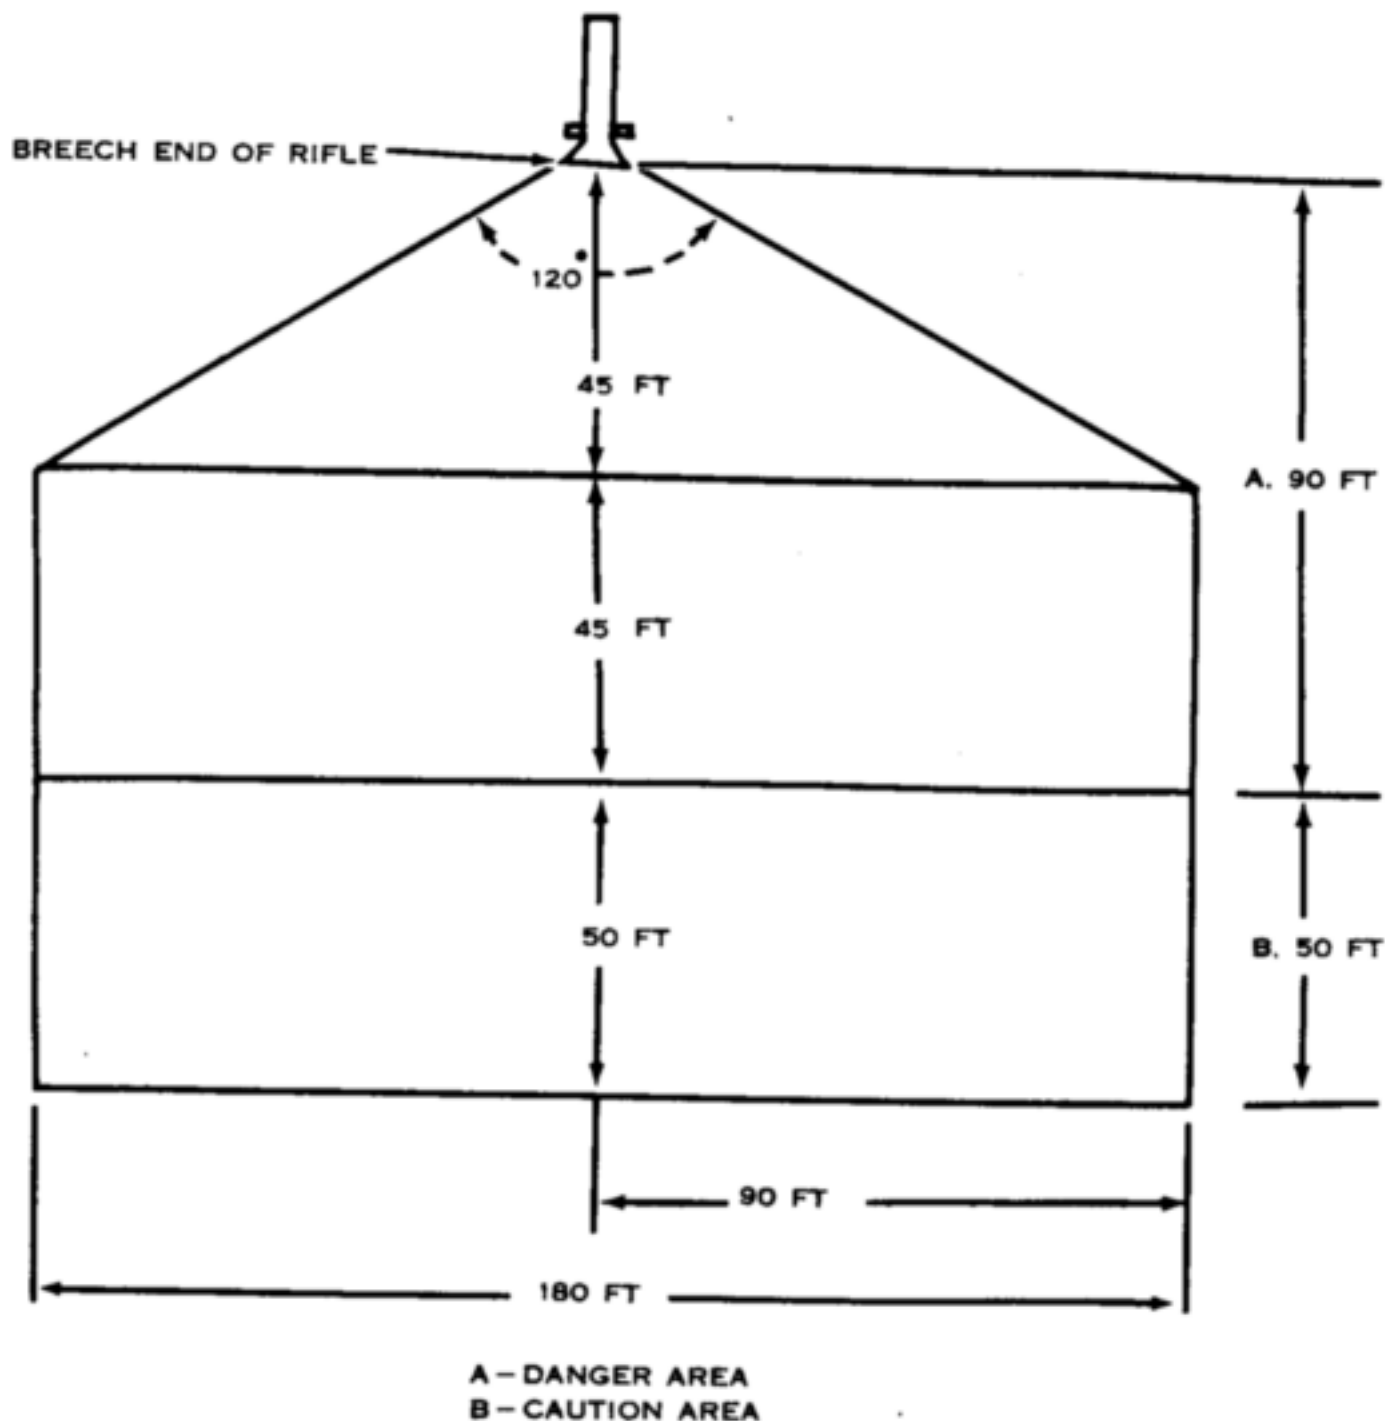

Figure 32. Backblast area.
b. The backblast area is pentagonal in shape (fig. 32) with the apex at the breech. It extends 43 meters to the rear and has a 55-meter base, 27.5 meters on either side of the bore axis extended. It is divided into two areas: A danger area and a caution area. In the danger area, which extends 27.5 meters to the rear of the breech, serious casualties or fatalities are likely to occur due to blast and flying debris. In the caution area an individual is relatively safe providing he does not face the breech. This area extends an additional 15 meters to the rear of the danger area. It is habitually kept clear during training situations.